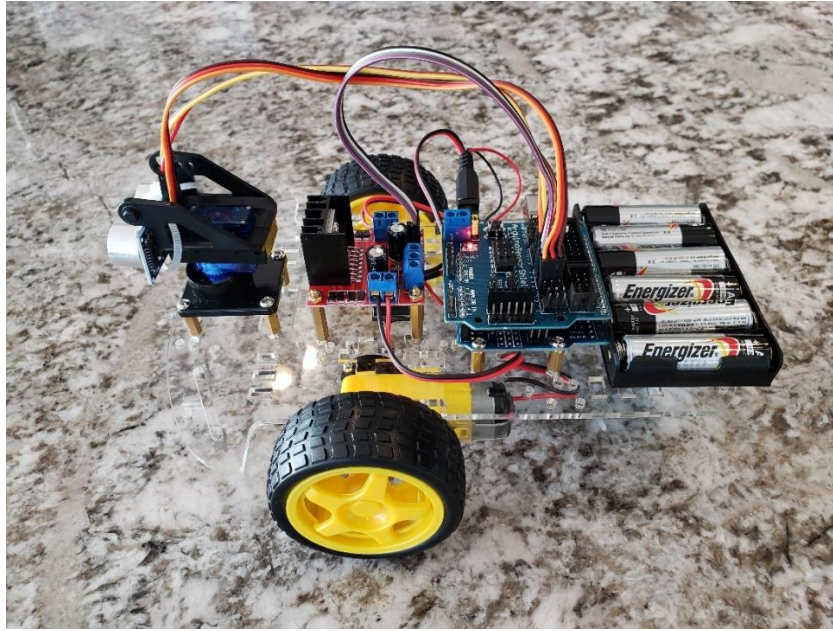

Figure 1: Assembled Robot
2. Provide a PWM signal where the duty cycle provides an "average" voltage proportional to the output torque desired. This is shown in Figure 1.